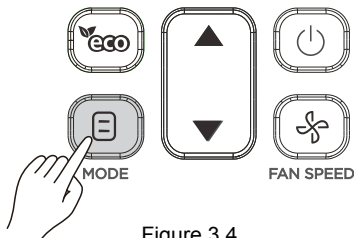

Figure 3.4
1) Press  (see Figure 3.4). Display screen shows the operating mode;